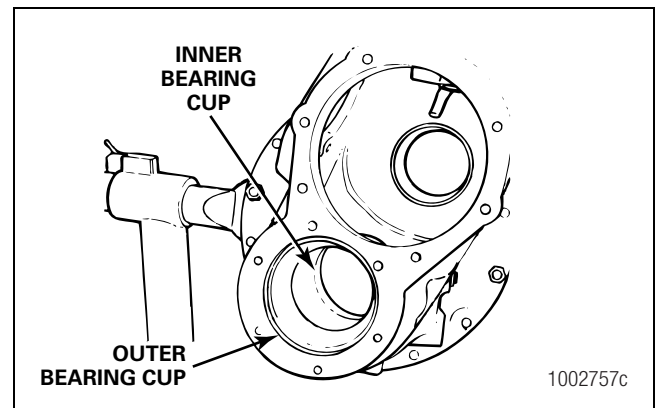

Figure 3.54
3. If necessary, remove the inner and the outer bearing cups from the carrier. Use a hammer and drift to remove the cups from the carrier. Replace any shims that are damaged. Measure and record the thickness of the shim pack for assembly. Figure 3.54.